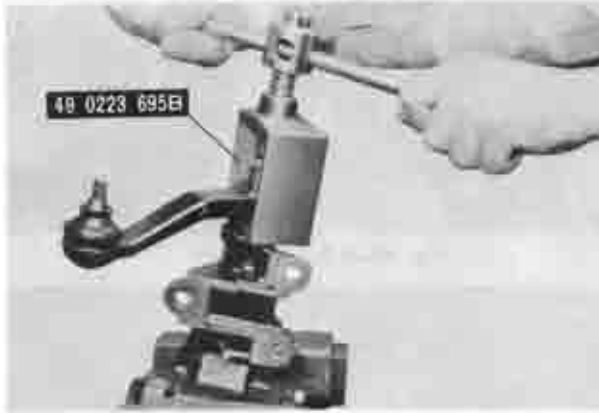

Fig. 10-6 Removing pitman arm
2. Remove the nut attaching the pitman arm and remove the pitman arm with the pitman arm puller (49 0223 695B), as shown in Fig. 10-6.